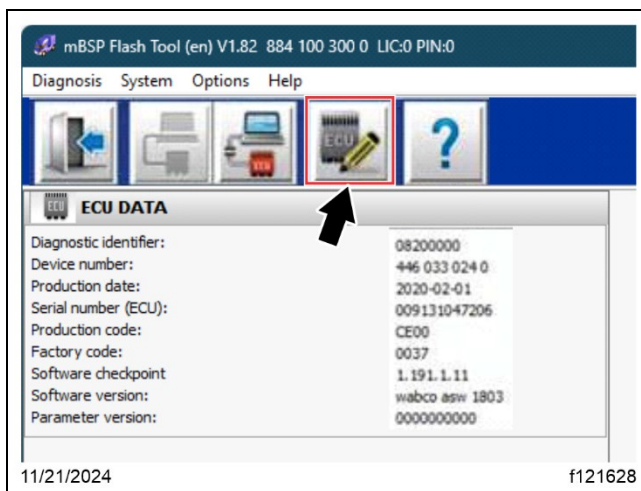

Fig. 50, Beginning the ECU Update
14. Select the 'ECU software update' button to begin the ECU update. See Fig. 50.